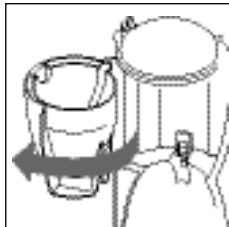

fig. 6
- Open the filter holder door by turning it to the left (Fig. 6).